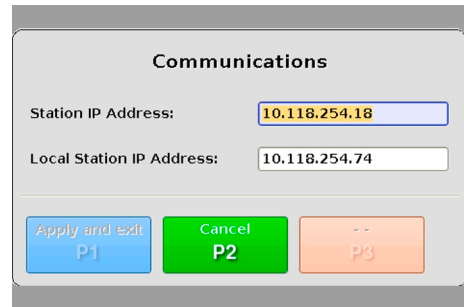

Fig. 37: “Communications” dialog
- ▷ In the “Settings” menu navigate to the “Communications” menu item and select it by pressing **P1**. The “Communications” dialog is displayed. Fig. 37 shows the “Communications” dialog at the remote station. If the system is configured only with a local station the “Communications” dialog will only show the local station IP address input field.